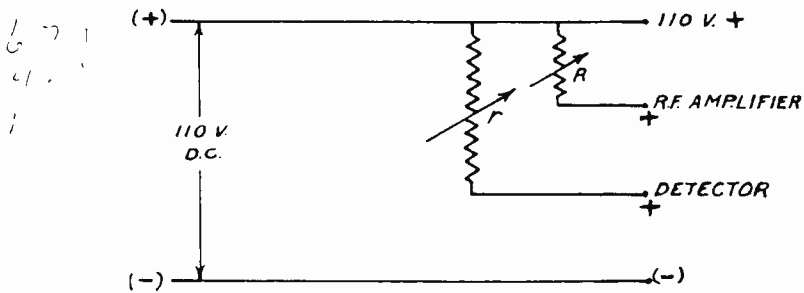
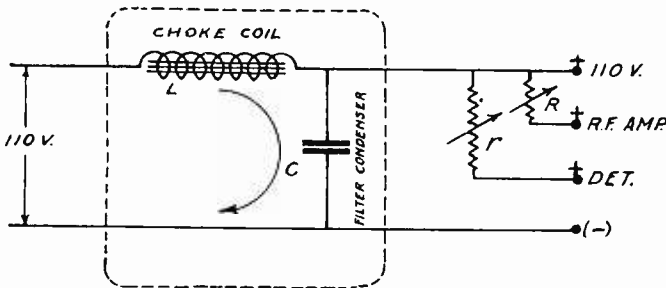
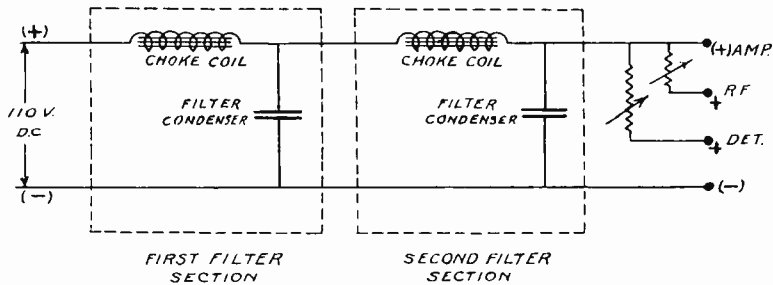
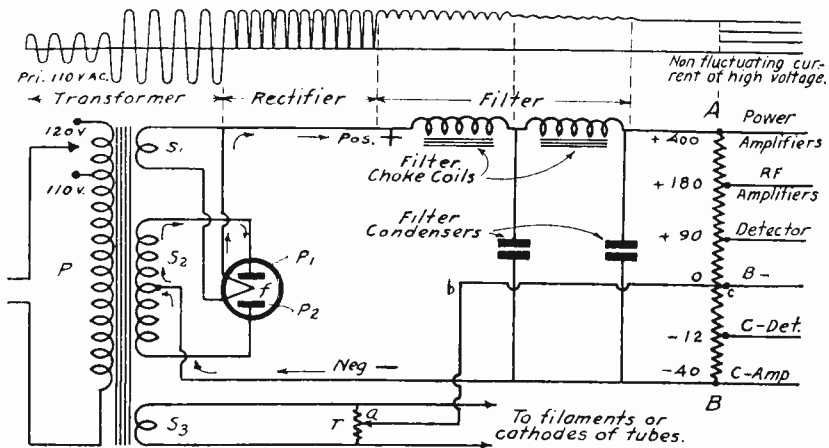

Fig. 17—Illustration Showing How Various Voltages are Obtained From 110 Volt D. C. Line.
Fig. 18—One Section Filter Arrangement for 110 Volt D. C. Line.
Fig. 19—Two Section Filter for 110 Volt D. C. Line.
Fig. 25—Schematic Diagram of a Full-Wave Rectifier Power System.
Suppose you look at Fig. 17 for a moment. This will explain the method very easily. First we have to find out how much resistance is required in the connection which goes to the R. F. amplifier (R. F. is an abbreviation for radio-frequency). Next we have to know how much current the radio-frequency amplifier tubes take. As a rule this should not be high; we may assume that about 5 milliamperes is the most they will take in a well designed receiver. Suppose also that the receiver is designed to have the R. F. tubes operate with
67.5 volts on the plates. This is all the information we need in order to find out how much resistance we need at R in Fig. 17.
This much voltage must be used up in the resistance  $r$  in Fig. 17. The value of the required resistance can be obtained the same as above, that is
simple form shown in Fig. 17. We must modify or change this arrangement in some way, so as to get rid of this noise, which is due to the variations in the generator.
As you recall, sometime ago, when we were learning about condensers and coils, we explained how the coil tries to keep up the current when it is decreasing, and how it tries to hold it down when it is increasing. We also explained how the condenser acts in just the reverse manner. It tries to increase the current further when it is increasing, and to decrease it more rapidly when it is decreasing. It seems, therefore, that some good might come if we should connect a condenser and coil in the circuit of Fig. 17, as this might cut out the noise or the hum. This is exactly what we have done, as is shown in Fig. 18.
The large coil marked L is called a *choke* coil because it "chokes" out these ripples. The condenser marked C is called a *filter condenser*. The whole arrangement enclosed by the broken line in Fig. 18 is called a *filter*, because it "filters" out the ripples. Figure 18, therefore, represents a complete "B"
Sometimes, when the ripple is very bad, that is, when the variations of the current are rather large, the filter of Fig. 18 may not be sufficient. When this is the case, it is necessary either to use a larger choke coil and condenser, or to use *two filter sections*. Such a circuit is shown in Fig. 19, where the separate filter sections are enclosed by broken lines.
direct current systems is a small one. The next problem is to devise an eliminator which will supply direct current without a ripple, when it is operated on alternating current. Let us suppose that we have a source of direct current which has quite a large ripple in it. It makes no difference where we get it, we can always apply to it the filter system of Fig. 19, and finally get the ripple out of it. Of course we may have to use very large choke coils and condensers, but at least we can do it. The problem that remains is to find a means of changing the alternating current into at least some form of direct current.
trons, and when one or the other of the additional electrodes is charged positively, it attracts the electrons to it and a current flows through the tube. Figure 25 shows the circuit arrangement. The primary "P" of the transformer is connected as usual to the house lighting circuit. The two windings going to the rectifier tube from the secondary side of the transformer, winding  $S_1$  supplies the high voltage, which is to be rectified, and the winding  $S_2$  supplies the alternating current for heating the filament (or cathode)  $f$  of the rectifier. The ends of the winding  $S_1$  are connected to the two plates of the tube. The filament, being heated, emits electrons; during one-half the cycle the plate  $P_1$  is positive, so that the current flows through the circuit in the direction indicated by the various arrows. During the other half of the cycle the plate
There are several ways of obtaining the "C" voltages for the receiver, but for the present we will consider the rather simple method shown in Fig. 25. The output of the rectifier, after passing through the filter, sends current through a high resistance AB, which is variously known as the *output resistor* or *bleeder resistor*. Note that this is a different arrangement from that shown in Fig. 17. Many arrangements and combinations are possible.
There is a voltage of, let us say, 440 volts across the terminals of this resistor. If we require a "C" voltage of  $-40$  volts on the grid of the power amplifier tube, we can call the lower terminal  $-40$  volts. Then, 40 volts above this on the resistor will be the B- connection, which goes to the cathodes of filaments of the tubes. If we are using a "C" bias detector, perhaps we need a bias of  $-12$  volts on its grid. Then this connection is 12 volts down from B- on the resistor. For simplicity we have marked the B- connection as being at zero potential. Then the plate voltages are plus and the "C" voltages are minus. Various other connections can be made to the resistor, depending upon the voltages we require in the radio receiver. Several voltage taps are shown in Fig. 25. Bear in mind that many combinations of voltages may be used, depending upon the types of tubes used and the particular design of the set.
Before concluding this lesson there remains one thing to be pointed out. That is, when current flows from the output resistor to the plate of any tube and then to the cathode or filament of that tube, it must get back to the B- connection of the output resistor. In Fig. 25 we have shown the cathodes or filament connected to the transformer winding  $S_3$ , which supplies the alternating current for heating the cathode. We must therefore show a connection between this winding and
the B— tap on the output resistor. This connection is generally made by placing a resistance  $r$  across the heater winding, as it is called, and connecting the midpoint of this resistance to the B— tap. This is the connection abc in Fig. 25.